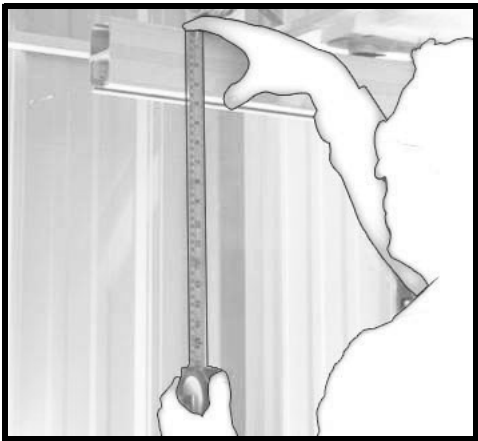
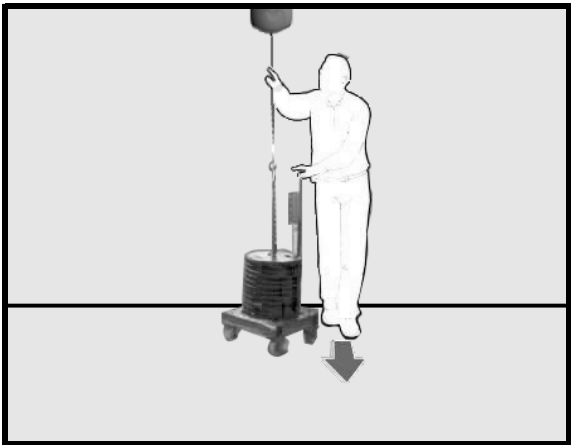

Fig. 65
Fig. 66
- 12) Take measurements of the height of the track verses the laser line as you pass under each bracket (see Fig. 65 and Fig. 66).